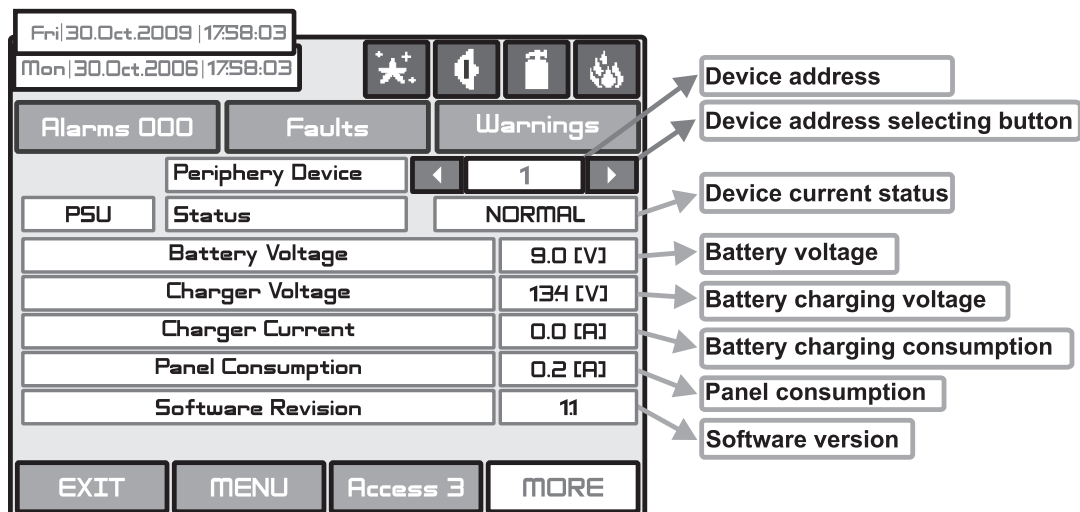

Fig. Screen 5 PSU Parameters (Power source)
Choosing “**Periphery**” button leads to submenu for entering the parameters of the available periphery devices in the system configuration - Fig. Screen 5. The list of supported periphery devices is:
- **PSU** Power source - see Fig. Screen 5